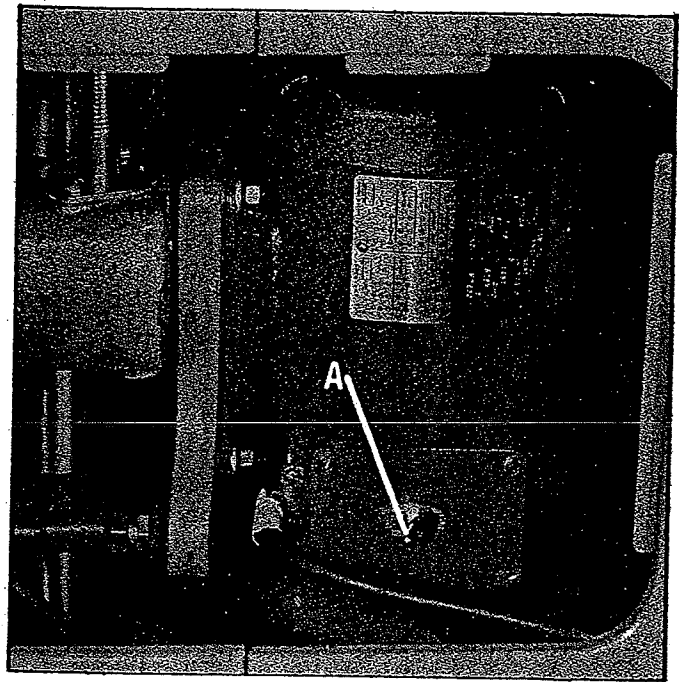

Fig. 20
If you purchased your machine complete with motor, the motor is equipped with a reversing switch (A) Fig. 20, located in the motor junction box. **CAUTION:** Never attempt to reverse the rotation of the spindle with the motor running.